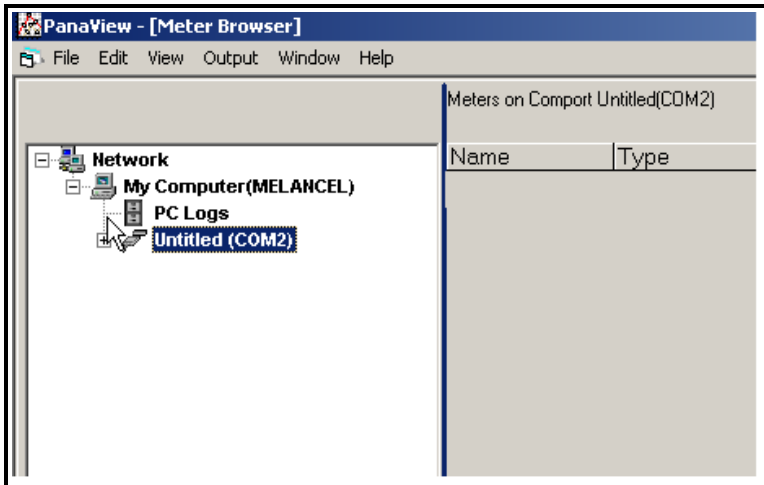

Figure 4-7: The New Serial Port Branch
1. Notice in Figure 4-7 below that the network tree now has the newly configured communication port listed.
Note: *In this example, the communication port has been named “Untitled” and is located on COM2. Whatever name was entered in the setup process appears in Figure 4-7 above.*